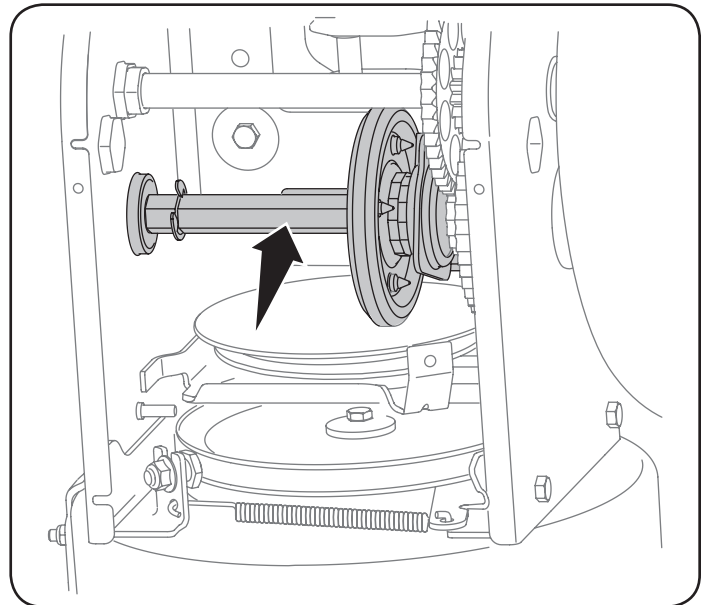

Figure 15
3. Apply a light coating of engine oil (or 3-in-1 oil) to the hex shaft. See Figure 15.